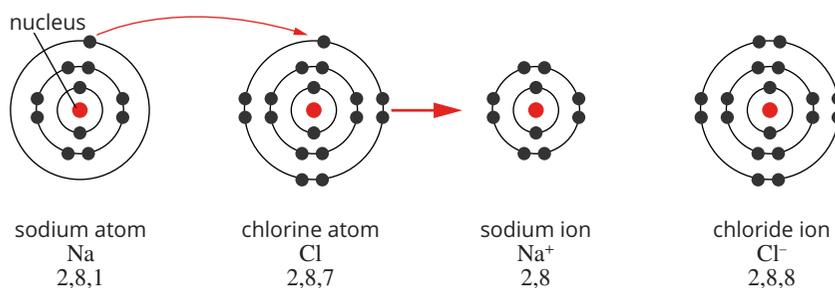

FIGURE 5.3.1 Electron transfer diagram showing the formation of sodium and chloride ions
Figure 5.3.1 illustrates how, when sodium reacts with chlorine, an electron is lost by a sodium atom and gained by a chlorine atom. A diagram of this type is called an **electron transfer diagram**.
- 2 Use diagrams similar to Figure 5.3.1 on page 112 to show the formation of ions in the reactions between: